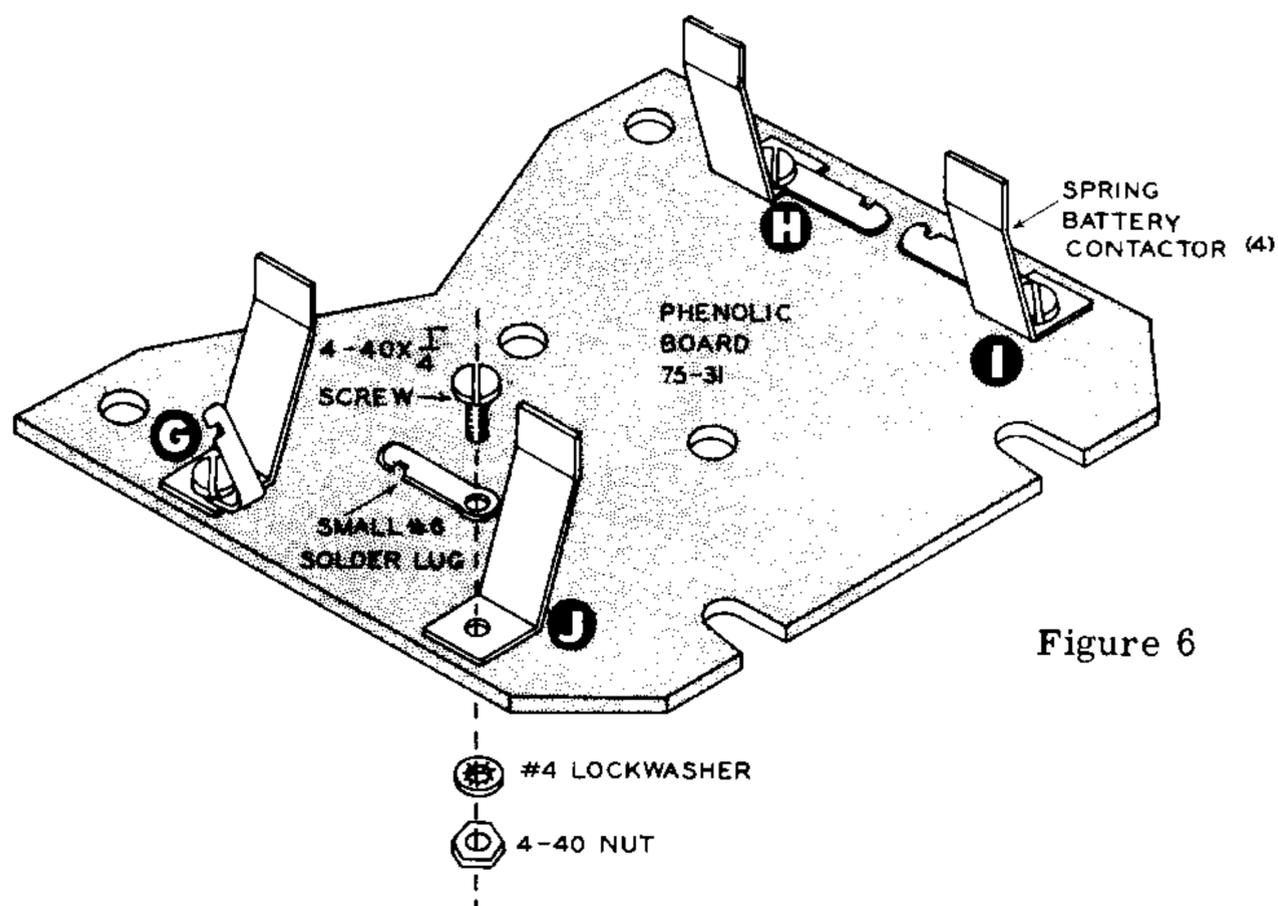

Figure 6
- ( ) Refer to Figure 6 and use 4-40 hardware as shown. Mount the four spring battery contactors and small #6 solder lugs in their proper positions on the phenolic board. Use a 4-40 x 1/4" PHMS from the topside of the board through the small #6 solder lug first, then through a spring contactor (if too snug, use a screwdriver), the phenolic board, a #4 lockwasher and secure with a 4-40 nut. (Note that two of the solder lugs lay flat and two bend up.)